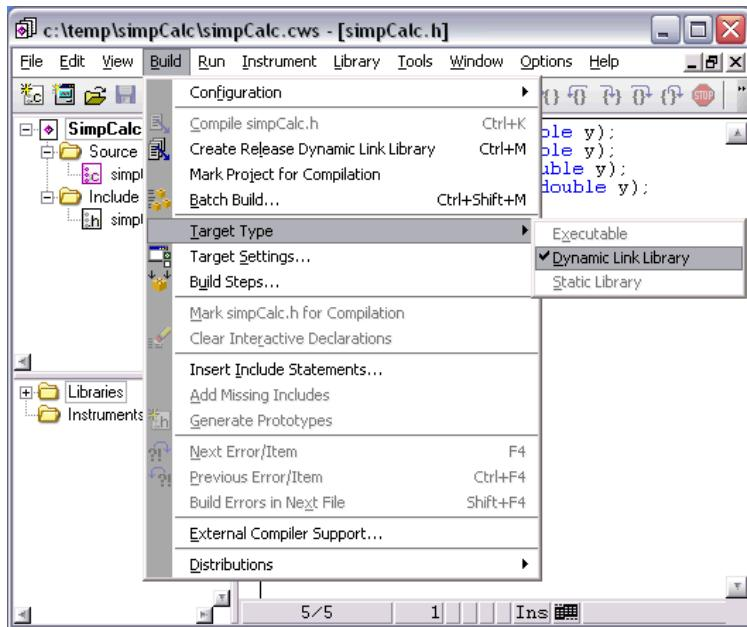

Figure 1. Specifying the Target Type
4. Configure the project to generate a DLL by specifying Dynamic Link Library as the target type for the project. Select **Build»Target Type»Dynamic Link Library** as shown in Figure 1.